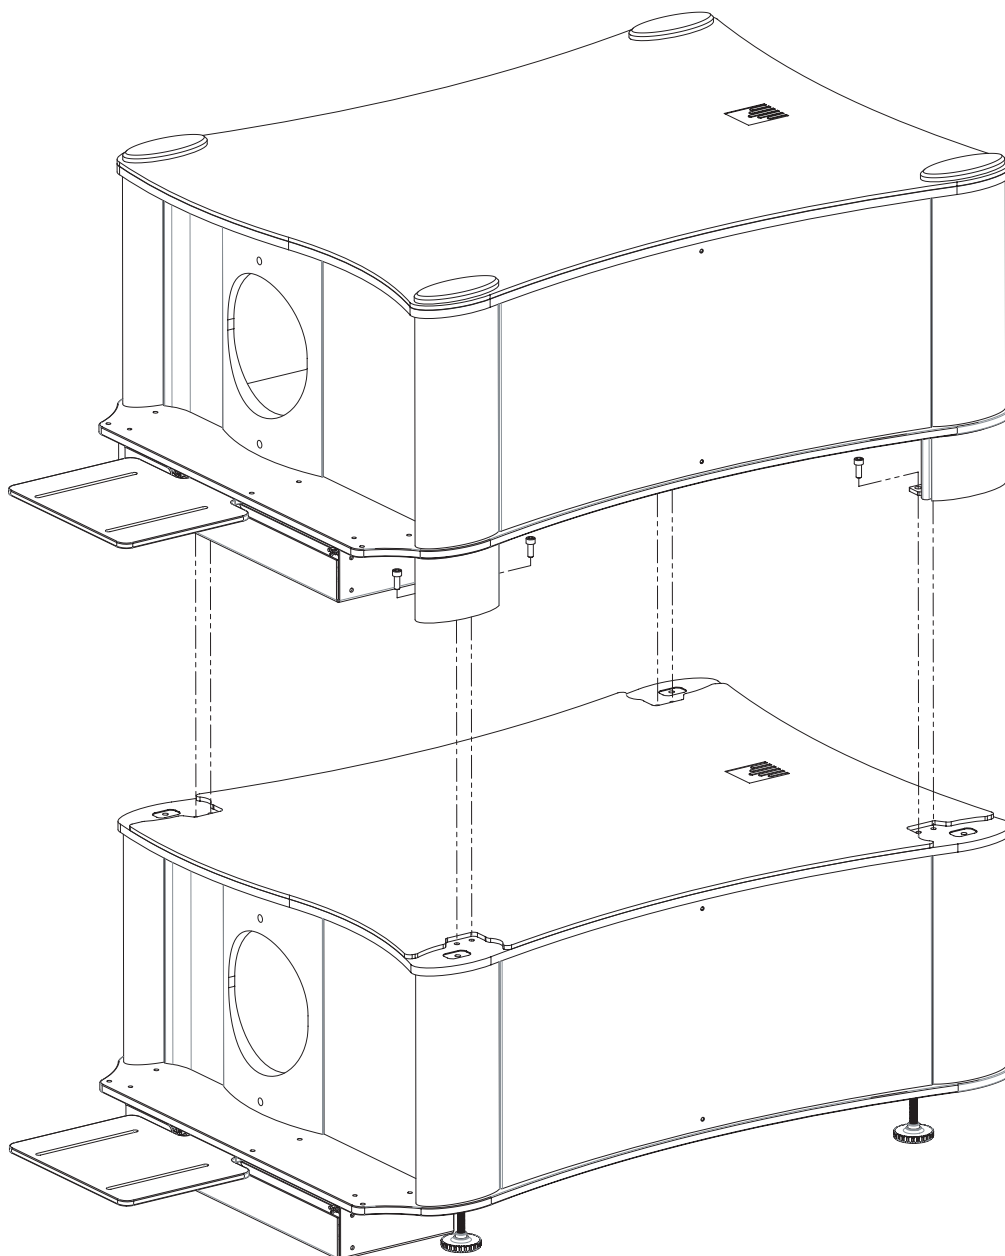

Figure 3-8. Securing the Top and Bottom Projection Units to Each Other
4. Using a hex wrench and eight (8) of the supplied, M6 x 16mm socket-head cap screws, secure the spacer legs to the bottom projection unit as shown in Figure 3-8.